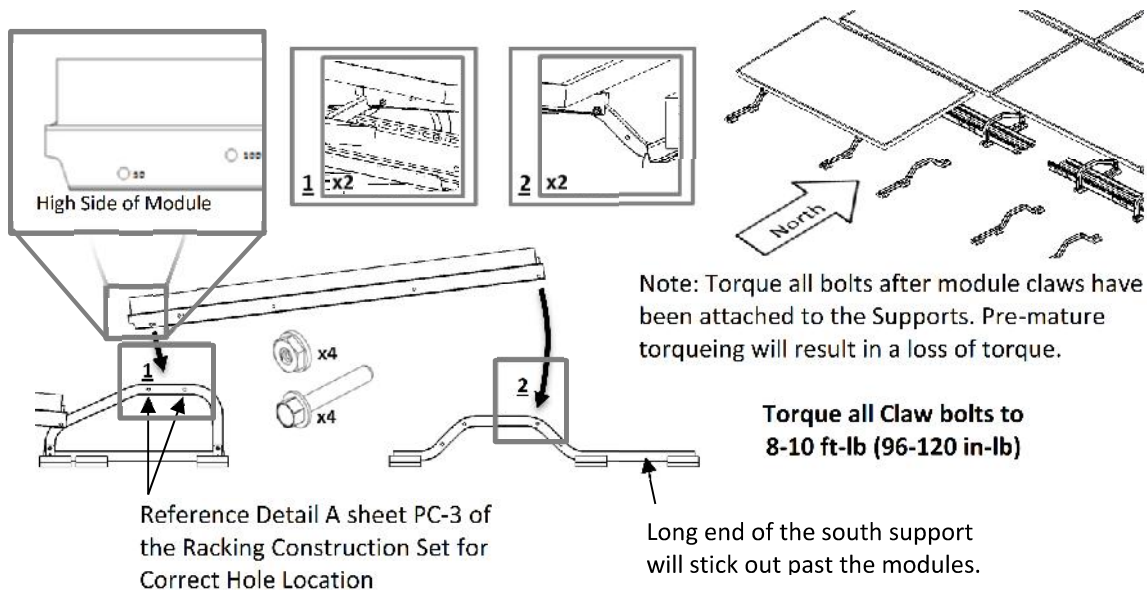

Figure 9 Installation of South Support
- 4.7. Complete the array by constructing row-by-row until the south array edge. Install the South Supports as shown in Figure 9.